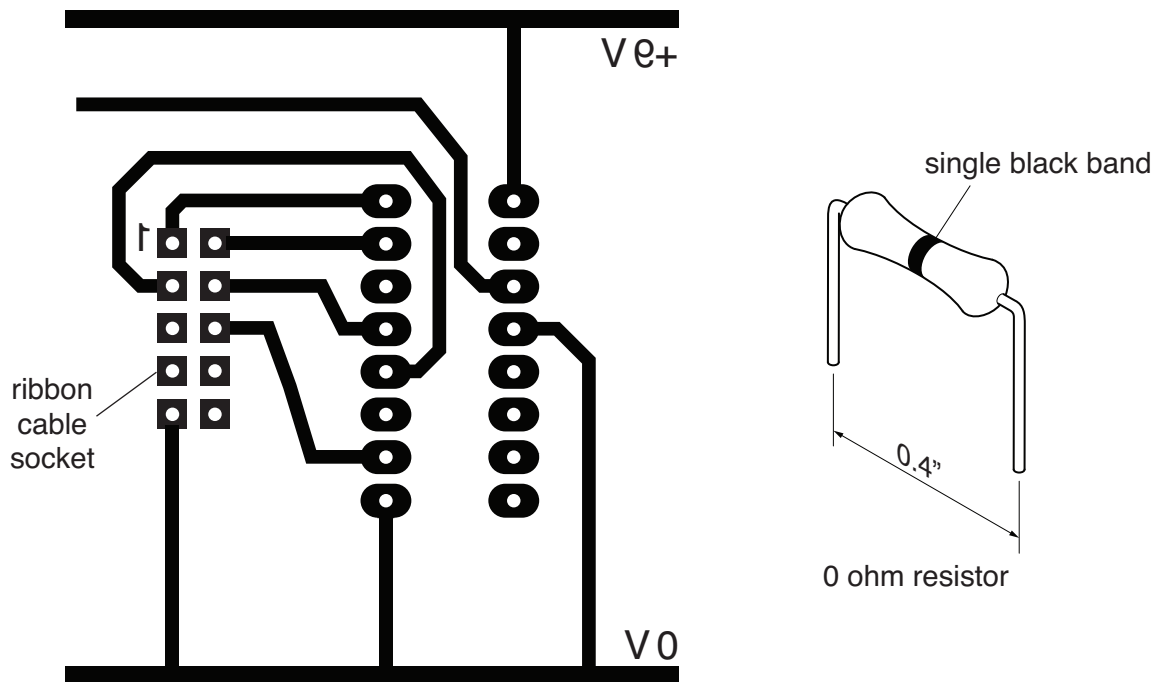

Fig. 15
- (c) Part of the PCB layout for the circuit is shown in Fig. 15.